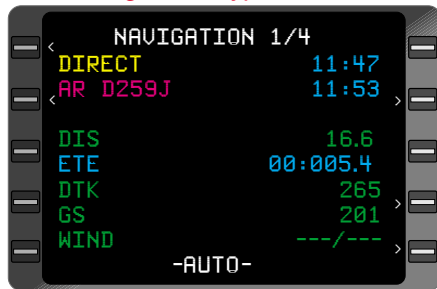

Figure 3-78
*NOTE: Certain EFIS map displays do not support curved lines to draw DME Arcs. In this case the map will only display waypoints up to and including the IAF waypoint at the beginning of the arc. No waypoints will be displayed while on the arc. Once the aircraft has passed the arc end waypoint, the map will display the remaining waypoints of the active flight plan. Although no waypoints will be displayed during the DME Arc Procedure, the FMS page displays will be as depicted in Figures 3-78 through 3-82*
As the aircraft approaches the **AR** waypoint, a message is displayed on the fourth line of the CDU indicating the next action the aircraft will take (**NX DME ARC**). This message is displayed thirty seconds prior to the event and disappears when the action is initiated. Figure 3-78 indicates the aircraft is fly-